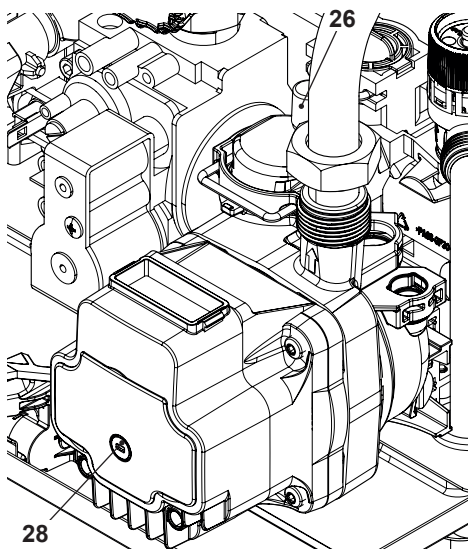

Fig. 7.2
- Loosen the cap on the automatic air purger valve 26 in Fig. 7.2 and leave open permanently.
- Purge the air from the pump by unscrewing the pump plug 28 (Fig. 7.2); release the pump shaft by turning in the direction indicated by the arrow on the information plate.